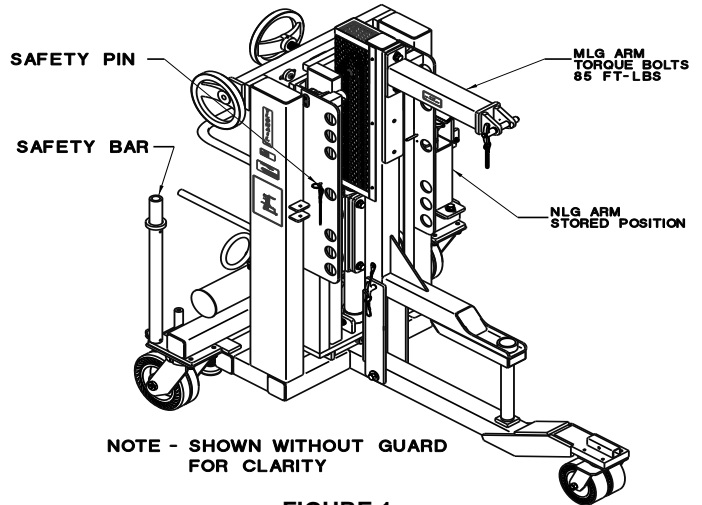

FIGURE 1
1. Attach appropriate lifting arm and bolt to a torque of 85 ft-lbs (See Figure 1)
5. Using hand pump, raise gear into mounting location. Using supplied safety bar (See Figure 1), slide bar beneath lift arm through nearest holes in slide to lift arm. Secure safety bar with pin (See Figure 1). Use back and side adjusting screws to position landing gear for mounting pin installation.